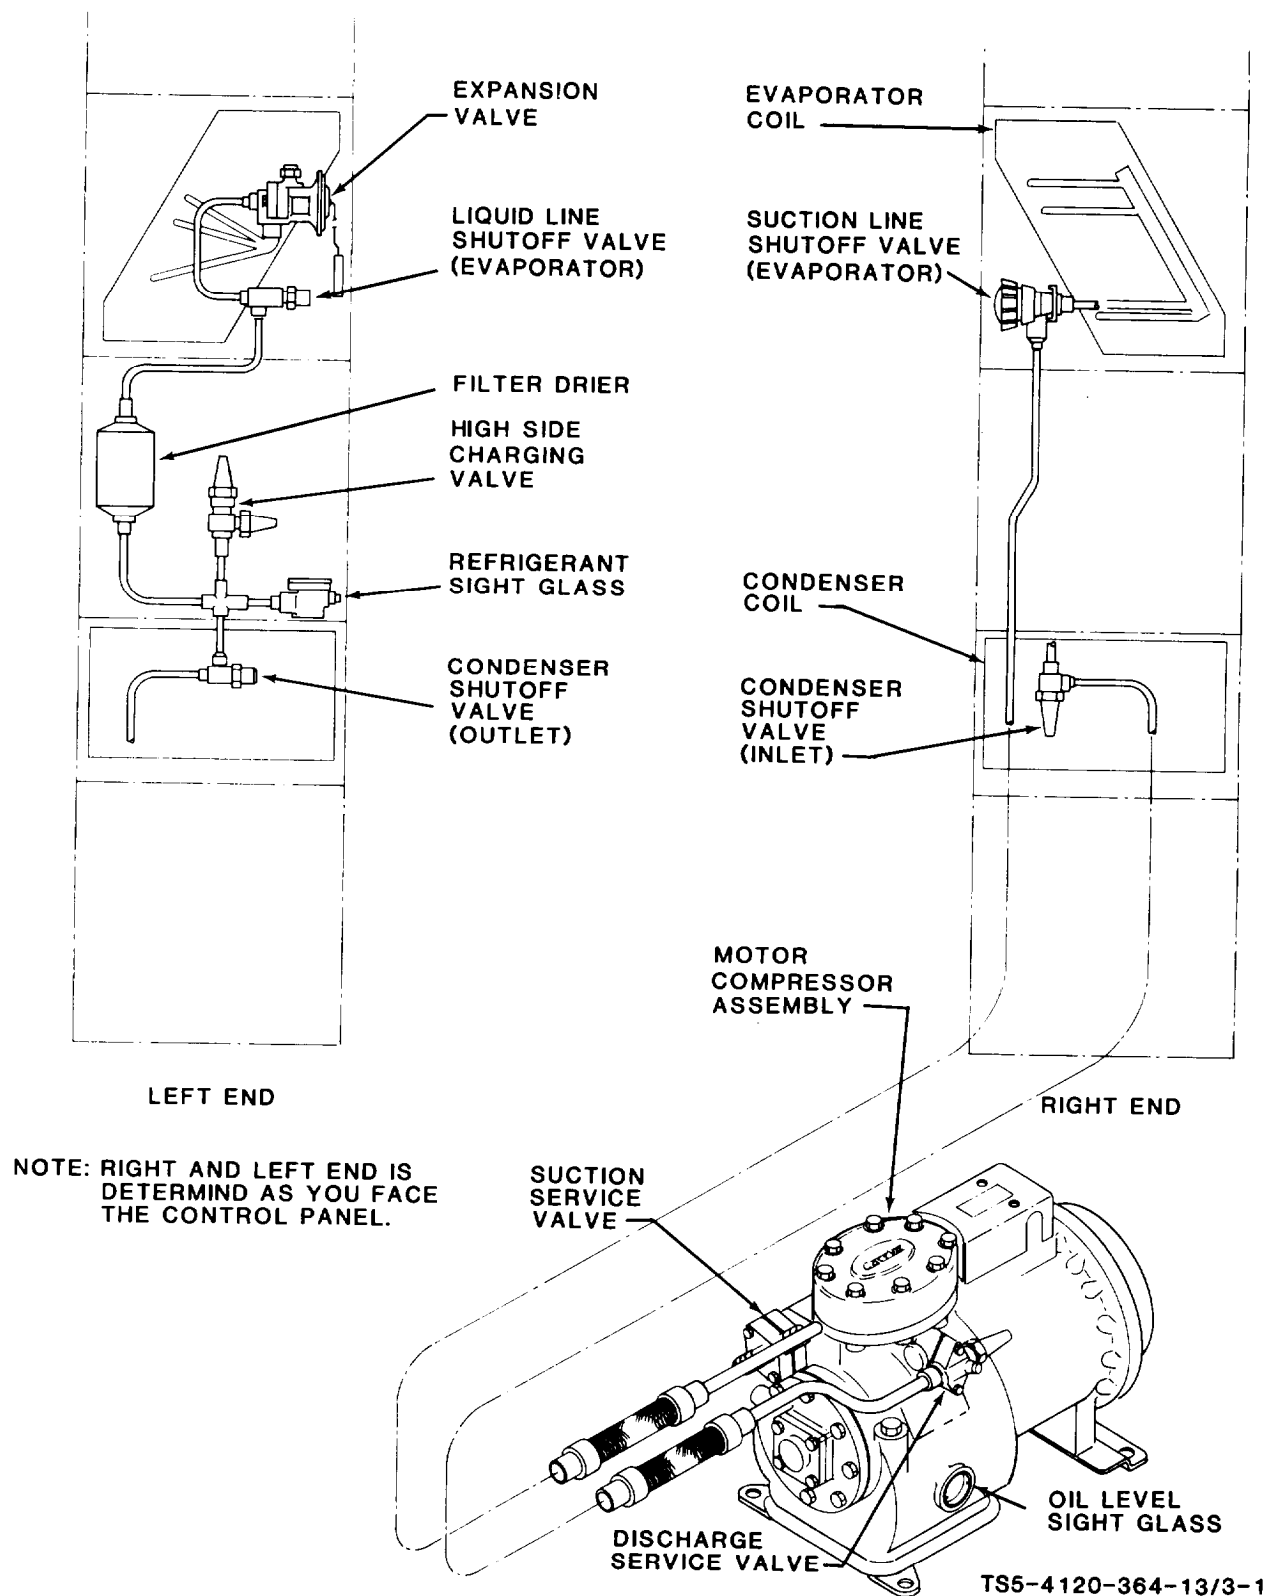

Figure 3-1. Location and functional names of valves
- (1) Remove the front, rear and end panels from all sections and inspect the air conditioner for physical damage to components and for oil leaks from the rotor compressor.
- (2) Use available leak detector over the entire unit to inspect for refrigerant leaks. Manually turn the fans to see that they turn freely with no rubbing or binding.
- (3) Check that all valves with the exception of the charging valve are open (see figure 3-1).
b. Extensive Movement. Pump down refrigerant in accordance with paragraph 4-6. Close all valves (see figure 3-1). Detach air conditioner from the shelter and disconnect the power source cable. Seal all openings in the cabinet with barrier material and sealing tape. Cover the entire cabinet with a protective barrier material.
Refer to figure 3-1 and open suction line shutoff valve(s).